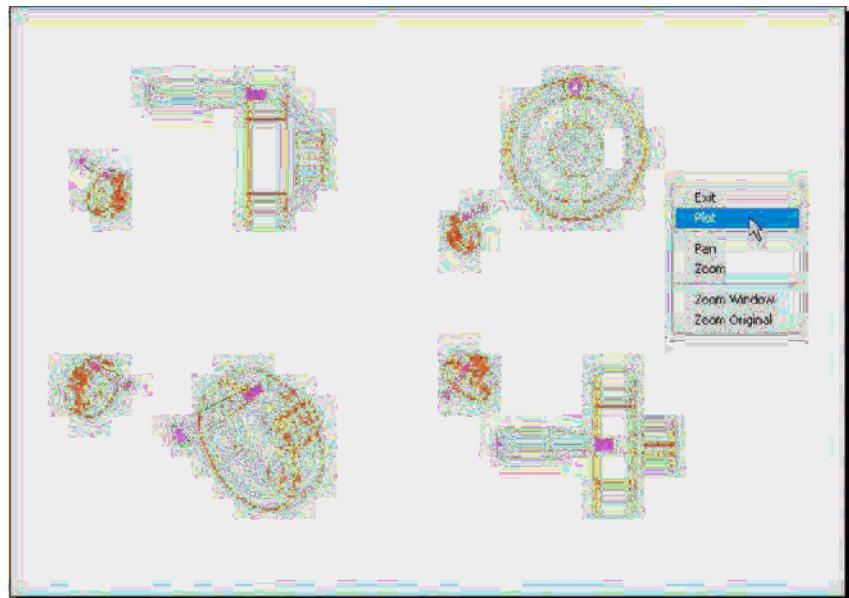

Fig. 19.13 Polygonal viewports – plot preview after turning the layer **vports** off
12. Turn the layer **vports** off. The viewport borders disappear (Fig. 19.13).